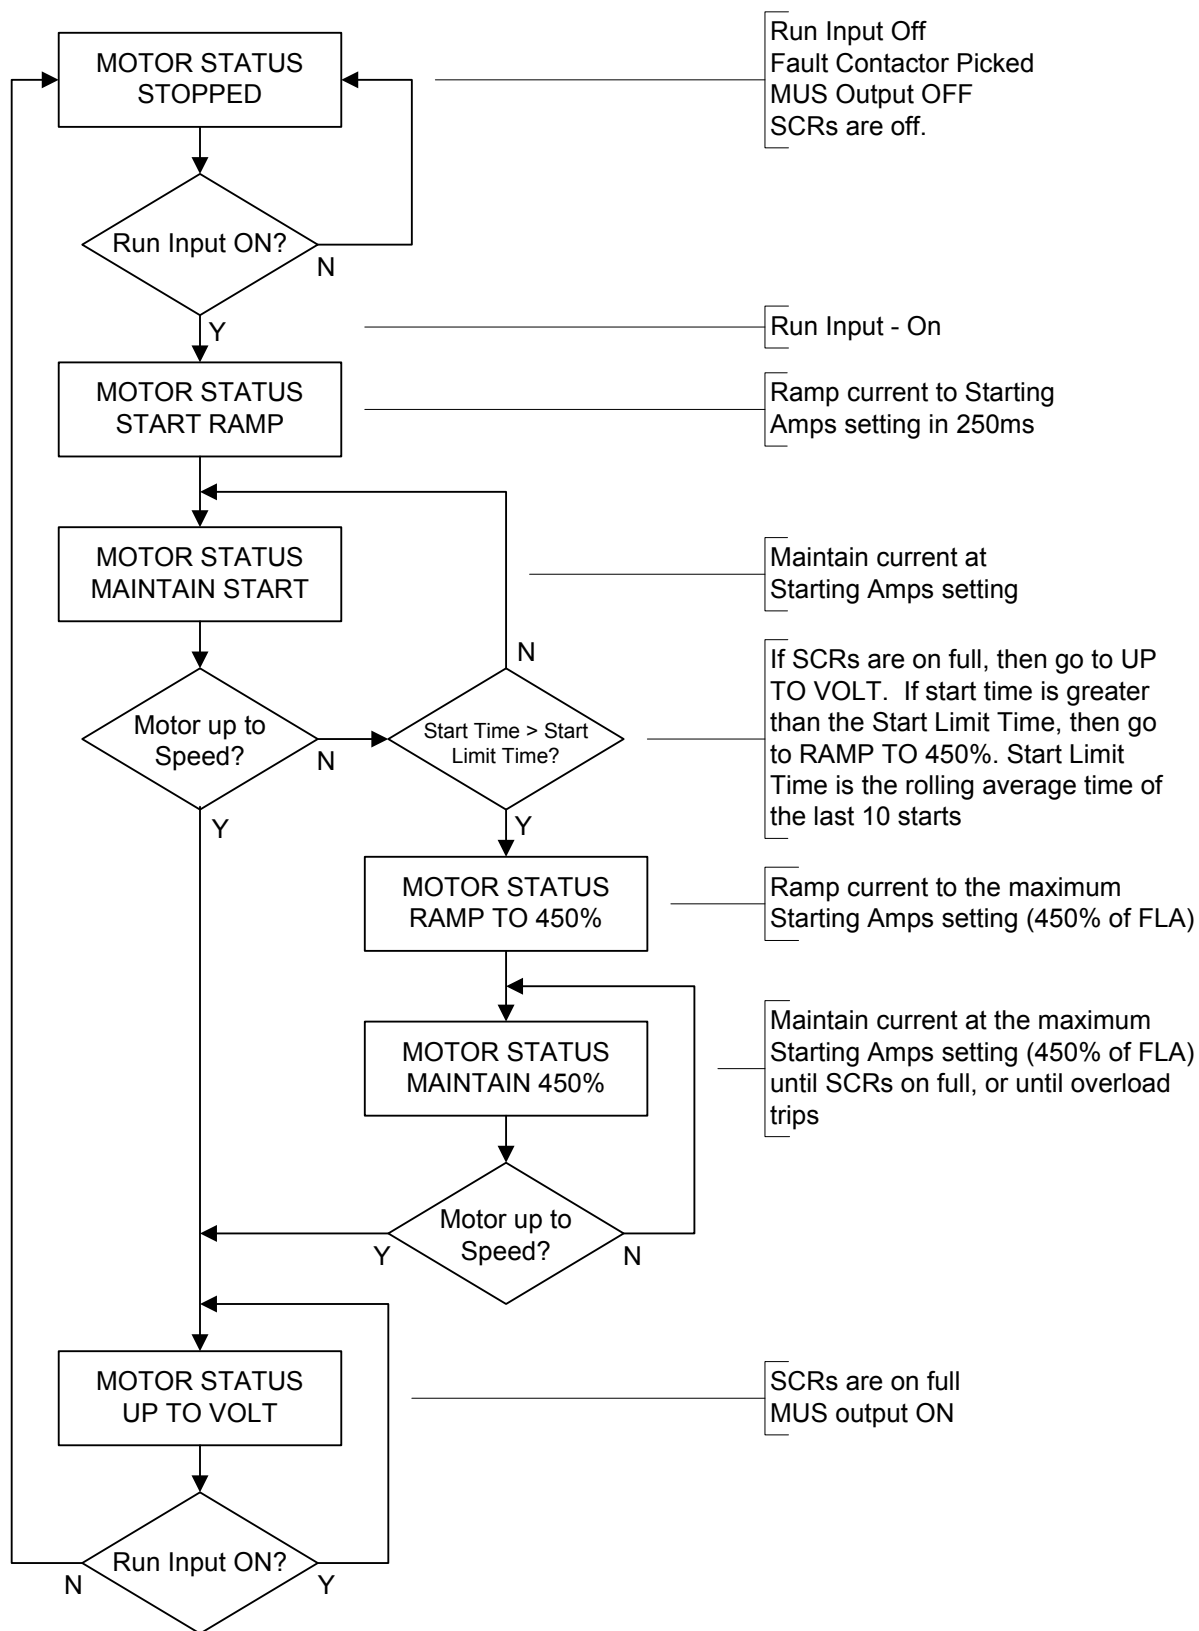

Figure 11: Motor Start Sequence
4. Valve Bypass Run (car should not move). Use a temporary jumper to connect 120 VAC from B1 to A1 (“Run” input) to start the motor. In about two seconds the display should read “Motor Up To Volt.” Motor Status messages displayed during a normal start are shown in Figure 11. Some messages, like “Motor Status Start Ramp,” are on for a very short time and may not be cleanly displayed.
Motor Status	Operational state during a start or fault message (if any). Refer to the flowchart in Figure 11 for motor status messages and Section 6 for a list and description of fault messages.
Fault Run Status	Motor Status when fault was detected. Refer to Figure 11, Motor Start Sequence, for a list of possible messages.